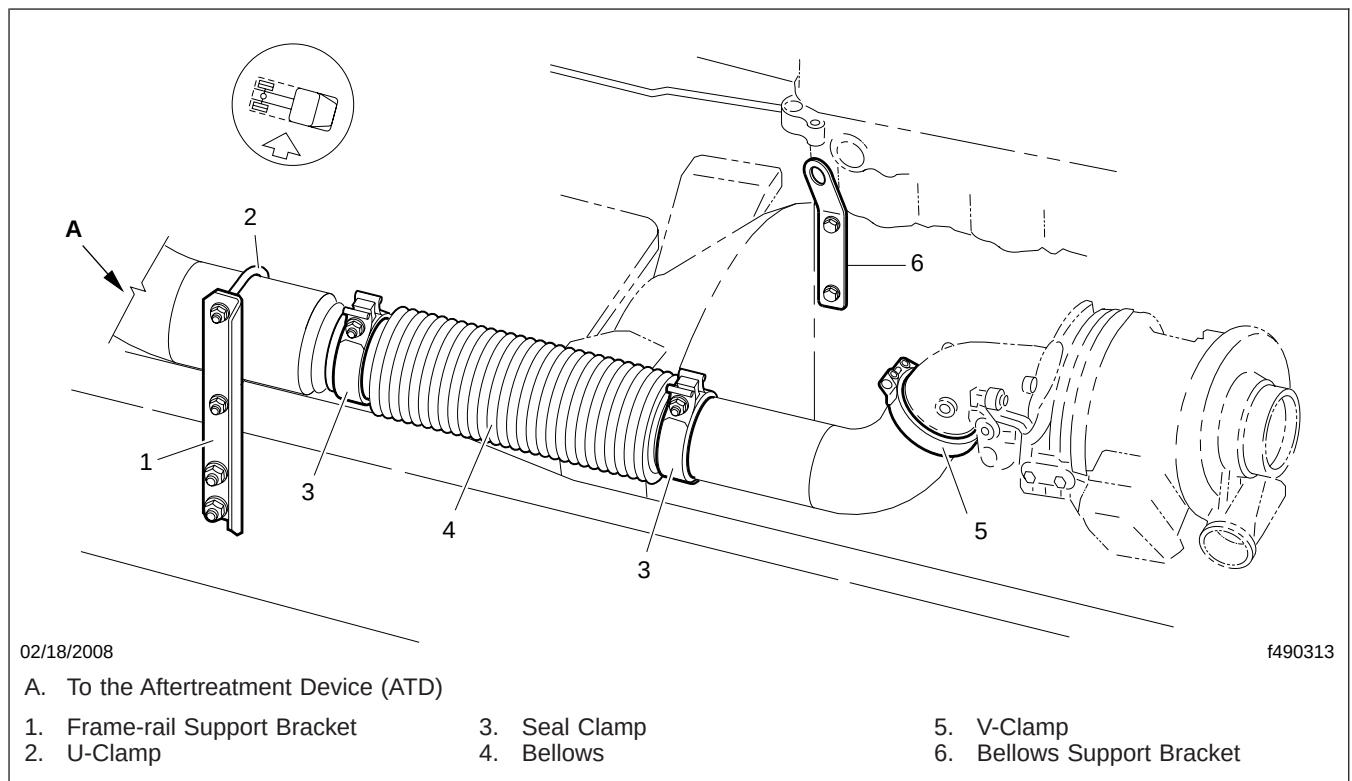

Fig. 1, Bellows Installation
4. Remove the V-clamp (**Fig. 1**, Item 5) that holds the turbo outlet pipe to the turbocharger.
5. Remove the U-clamp that holds the aftertreatment device (ATD) inlet pipe to the support bracket on the frame rail (**Fig. 1**, Item 2).